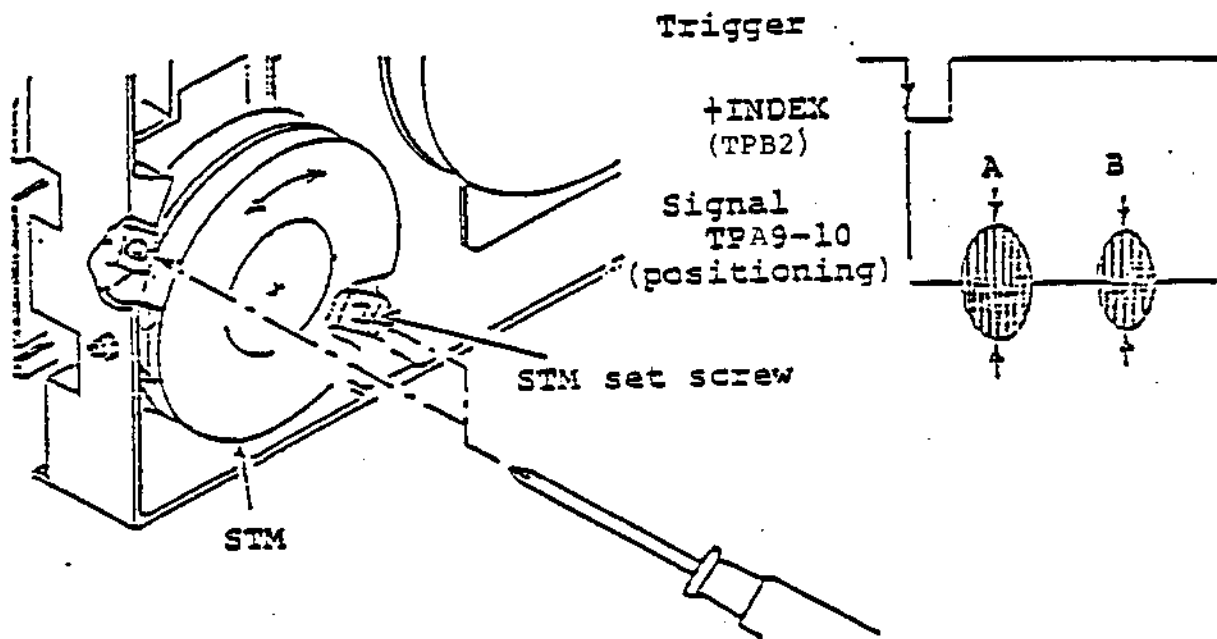

FIGURE 7
2)-4 Seek TK00 to TK32 then read amplitude of each waveform (positioning waveform) at TP89, TP10 under read mode (see Figure 7).